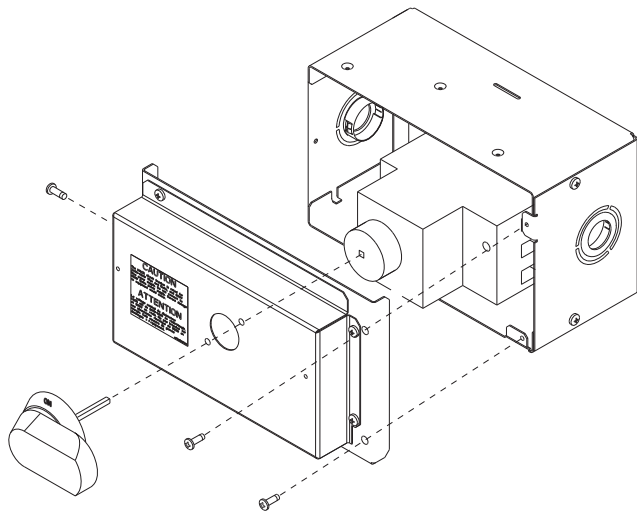

Fig. 37 — HACR Handle and Shaft Assembly
2. Remove (3) cap head screws that secure the HACR enclosure — (2) on the face of the cover and (1) on the left side cover. See Fig. 37.
5. Insert the shaft all the way with the cross pin on the top of the shaft in the horizontal position. See Fig. 37.
9. Secure the handle to the painted cover with (2) screws and lock washers supplied.
10. Engaging the shaft into the handle socket, re-install (3) cap head screws on the HACR enclosure.